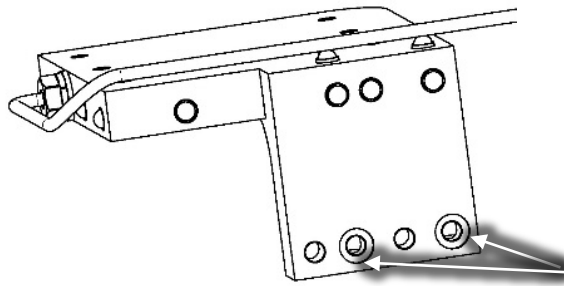

Figure 21 –SCR Cooling Manifold O-ring Installation
1. Apply O-Lube to the O-rings provided and install them into the SCR Cooling Manifold. Refer to Figure 21 (SCR Cooling Manifold O-ring Installation).